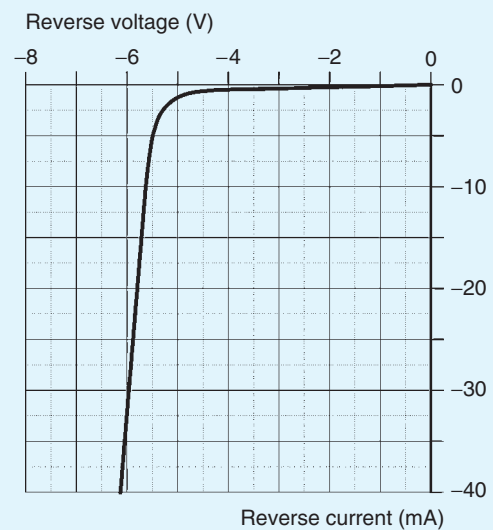

Figure 11.21
6. The graph shown in Fig. 11.21 was obtained during an experiment on a Zener diode. (a) Estimate the Zener voltage for the diode. (b) Determine the reverse voltage for a reverse current of -20 mA. (c) Determine the reverse current for a reverse voltage of -5.5 V. (d) Determine the power dissipated by the diode when the reverse voltage is -6 V.